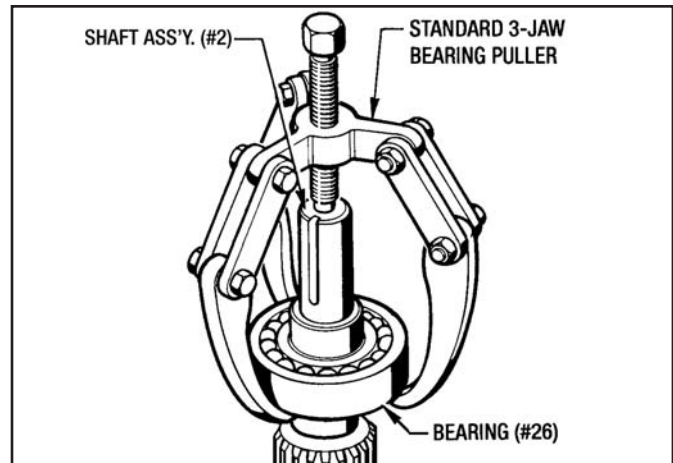

Figure 7.6 - Removing Bearing (#26)
13. If the Bearing (#26) needs replaced, use a bearing puller to pull it off the shaft. (See *Figure 7.6*)
14. If the Bearing (#26) needs replaced, use a standard 3-jaw bearing puller to remove it from the Shaft Assembly (#2) as shown in *Figure 7.6*.